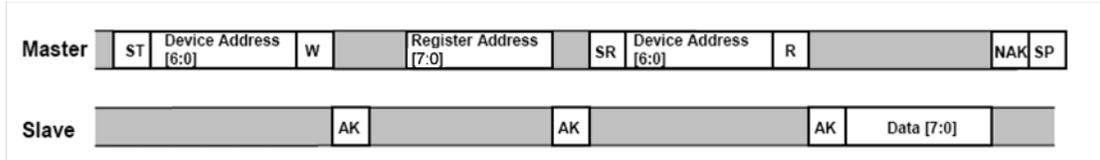

Figure 7. Single Byte Read - The Master is reading one address from the MMA7456L
The MMA7456L has an 10-bit ADC that can sample, convert and return sensor data on request. The transmission of an 8-bit command begins on the falling edge of SCL. After the eight clock cycles are used to send the command, note that the data returned is sent with the MSB first once the data is received. Figure 7 shows the timing diagram for the accelerometer 8-bit I2C read operation. The Master (or MCU) transmits a start condition (ST) to the MMA7456L, slave address (\$1D), with the R/W bit set to "0" for a write, and the MMA7456L sends an acknowledgement. Then the Master (or MCU) transmits the 10-bit address of the register to read and the MMA7456L sends an acknowledgement. The Master (or MCU) transmits a repeated start condition (SR) and then addresses the MMA7456L (\$1D) with the R/W bit set to "1" for a read from the previously selected register. The Slave then acknowledges and transmits the data from the requested register. The Master does not acknowledge (NAK) it received the transmitted data, but transmits a stop condition to end the data transfer.